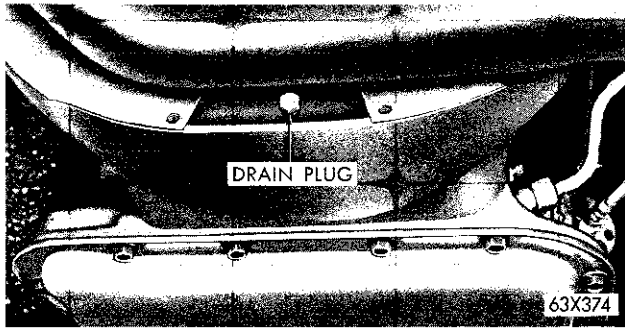
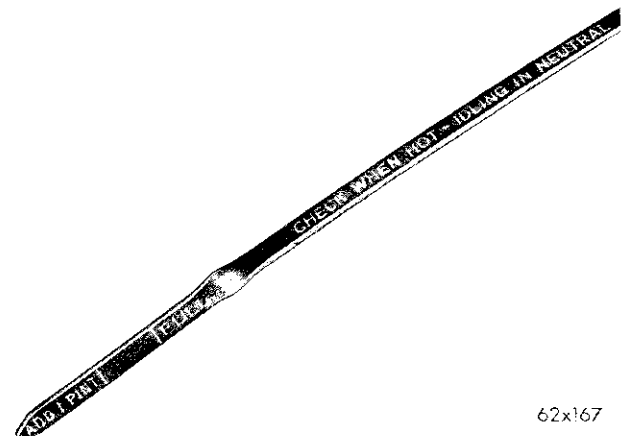

Fig. 3—Converter Drain Plug
Fig. 4—Dip Stick Markings
- (1) Raise the vehicle on a hoist. Place a drain container with a large opening, under the transmission oil pan.
- (2) Loosen the pan bolts, tap the pan to break it loose allowing the fluid to drain, then remove the oil pan.
- (3) Remove the access plate from in front of the converter, remove the drain plug allowing the fluid to drain (Fig. 3). Install and tighten the converter drain plug to 14 inch-pounds torque, and install the access plate.
- (4) If necessary, adjust the reverse band. Refer to Page 52.
- (5) Install a new oil filter on the bottom on the valve body. Be sure to use a new gasket and tighten the filter retaining screws to 28 inch-pounds torque.
- (6) Clean the oil pan, and reinstall using a new gasket. Tighten the oil pan bolts to 150 inch-pounds torque.
- (7) Pour eight quarts of Automatic Transmission Fluid, Type "A" Suffix "A" into the transmission.
- (8) Start the engine and allow to idle for at least two minutes. With the parking brake on, move the selector lever momentarily to each position ending in the **neutral** position.
- (9) Add sufficient fluid to bring fluid level to the "ADD ONE PINT" mark. (Approximately 2 quarts.)
- (10) Recheck the fluid level after the transmission is at normal operating temperature. The level should be between the "FULL" mark and the "ADD ONE PINT" mark (Fig. 4).